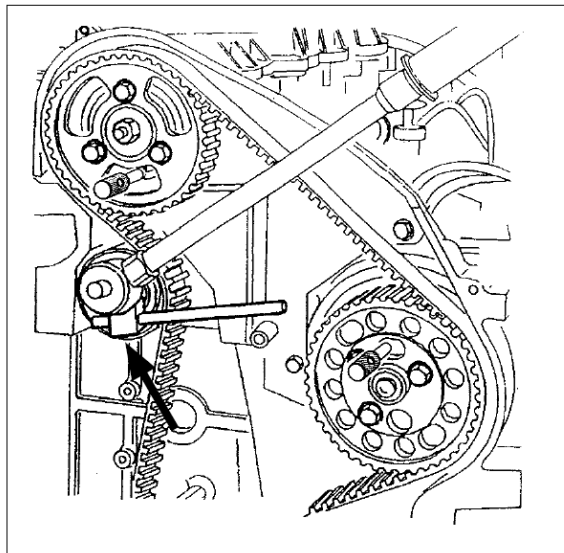

Fig. 2
- This tool is needed in order to turn the tensioner and hold it in place while tightening the central bolt (23 Nm) (Fig. 2).